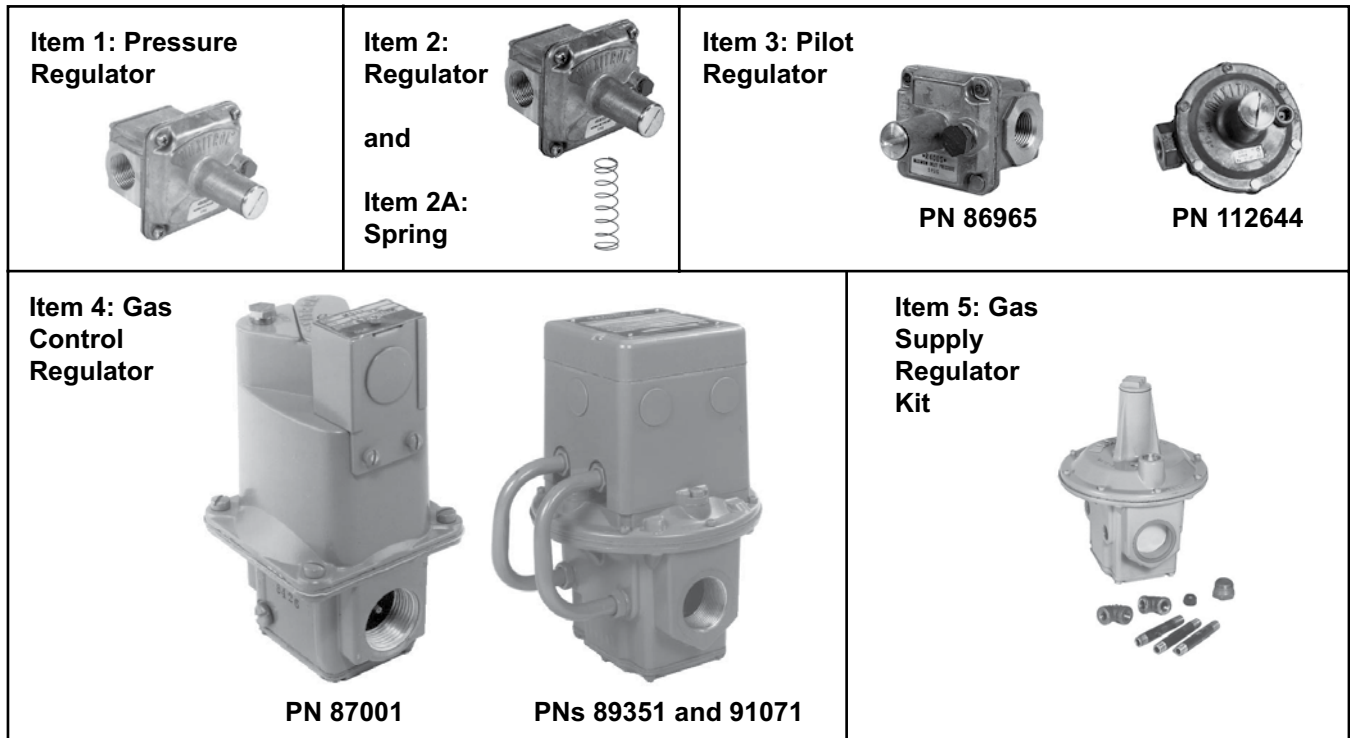

Figure 6. Gas Pressure Regulators (Refer to Table 17)
- Gas pressure regulators are shown in Figure 6.